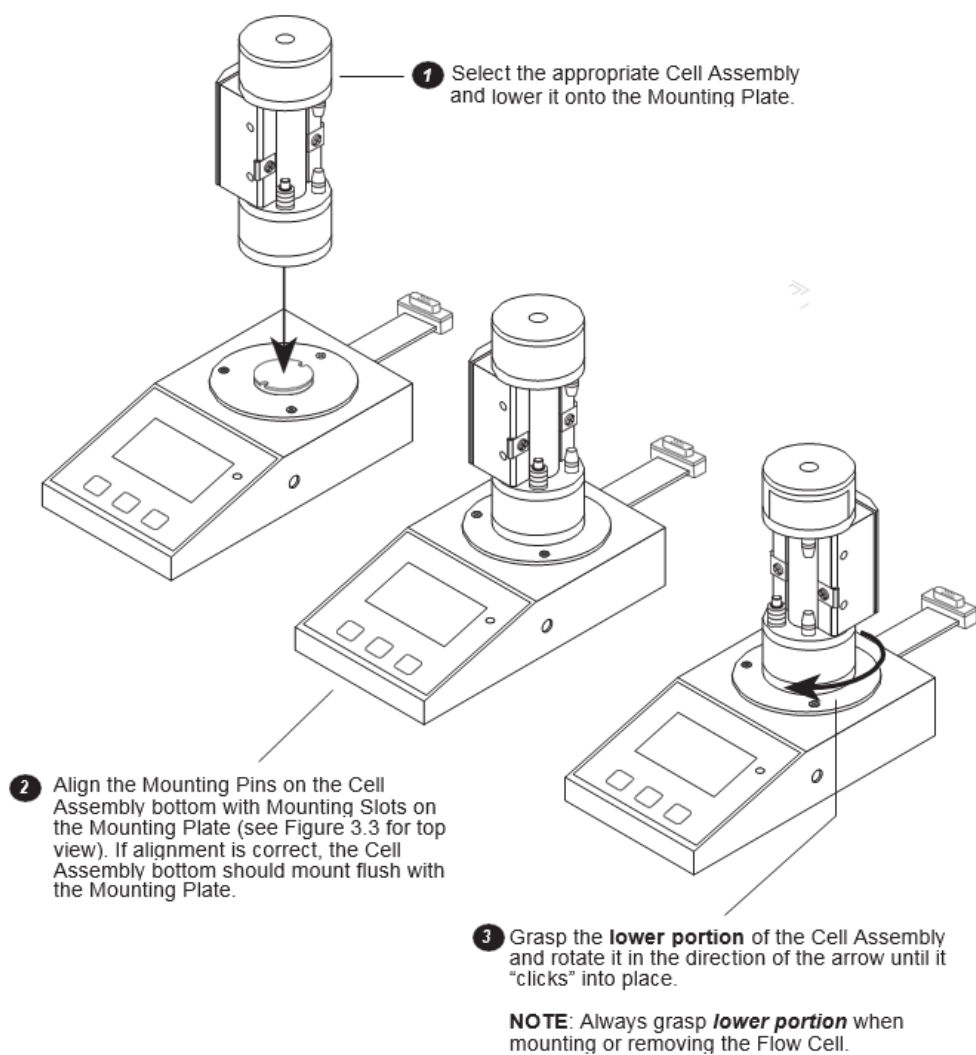

Figure 3.2
Refer to Figures 3.2 & 3.3. Perform the following steps to mount the Cell Assembly.
- 4) With the front of the Cell Assembly facing right (see Figure 3.2), lower the assembly onto the Mounting Plate on the Control Unit.